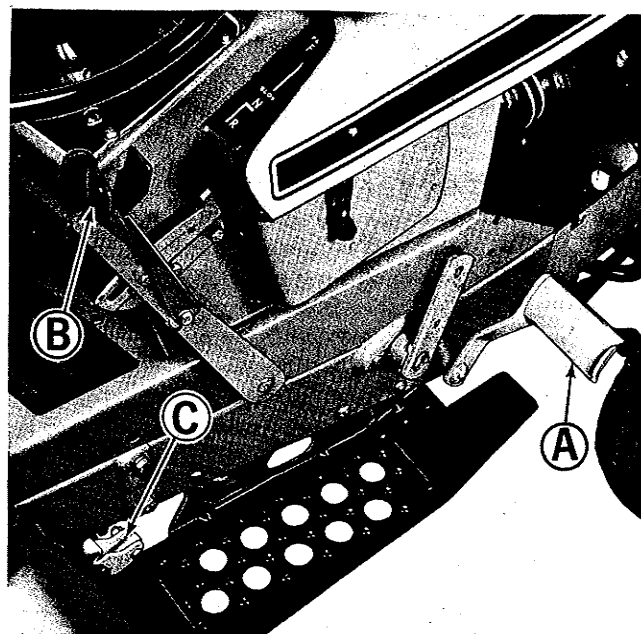

Figure 2. Controls on right side of tractor
**CLUTCH AND BRAKE PEDAL: (Figure 2, item A)**
**HYDROSTATIC TRANSMISSION CONTROL LEVER: (Figure 2, item B)**
To move the tractor in **REVERSE**, squeeze the trigger of the hydrostatic control lever toward the knob, push the lever to the left, and pull it back from the neutral position. The farther back the control lever is moved, the faster the tractor will travel in **REVERSE**. To stop the tractor in reverse, squeeze the trigger toward the knob and move it slowly to the neutral position. In emergency situations, you may use the clutch and brake pedal (Figure 2, item A) to stop.
**PARKING BRAKE LOCK: (Figure 2, item C)** To lock the parking brake grasp the lock, and pull it upward and
back until the handle rests against the foot rest as shown in figure 2. To release pull the top portion away from the foot rest and down. It should be locked in the up position to prevent the tractor from rolling whenever the operator leaves the tractor seat.